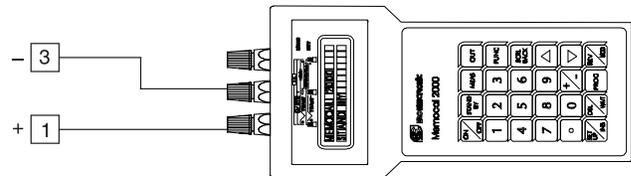

Fig.7
b) Connect the instrument under test to the calibrator with a resistor, connected in series, having a value within 10 KΩ and 30 KΩ as shown in Fig. 7.